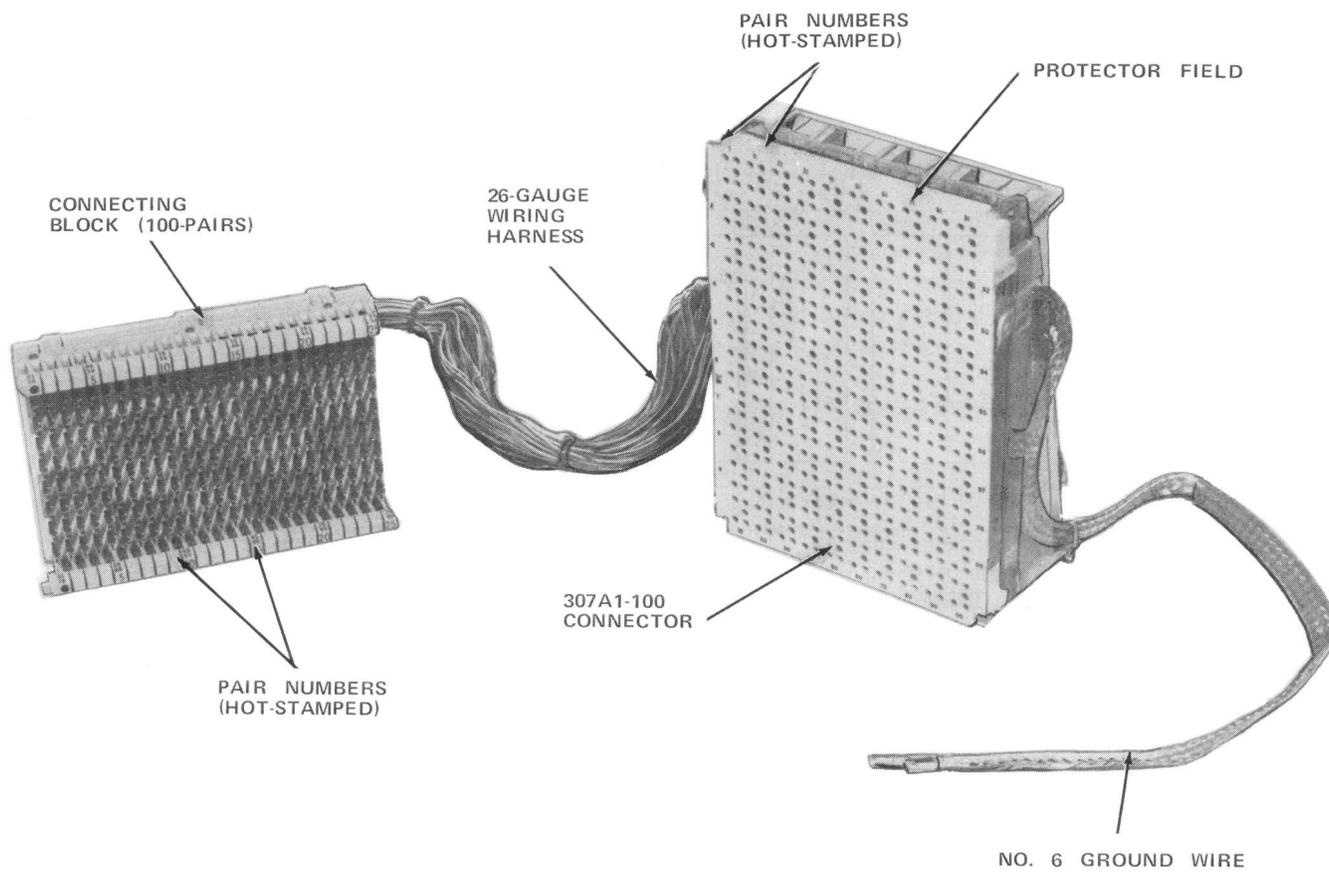

Fig. 5—307-Type Connector Assembly-Front
**4.01** The 307-type connector, developed especially for the COSMIC II distributing frame, consists of two main components; the protector panel and the connecting block (Fig. 5 and 6). The protector panel accommodates 100 cable pairs. It is factory wired to either a 100-pair connecting block (307A1-100 connector) or two 50-pair connecting blocks (307B1-100 connector).